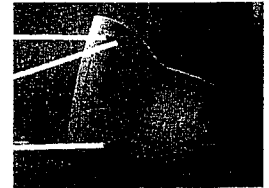

Fig. 4
Step 2: To open the lid at the left-upper side and 1 screw in left-downer side of the monitor.(FIG.4)